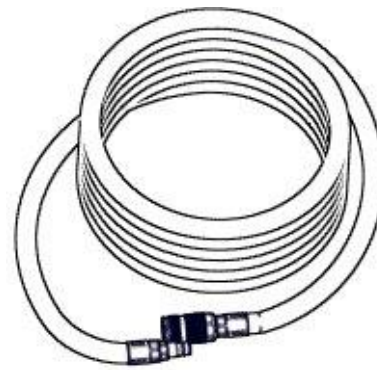

Figure 1-35 Hose X' Color W/Couplings
h. **Manual Air Compressor.** The Manual Air Compressor (Figure 1-35) has two cylinders, 48.8 cubic inch (800 cubic centimeter) provides a source of compressed air to extend strut(s). Incorporated on the compressor is a spring loaded foot pedal, a quick disconnect fitting and a sliding, two-stage valve collar to isolate one cylinder thereby increasing pressure and decreasing delivered volume by a factor of 2.